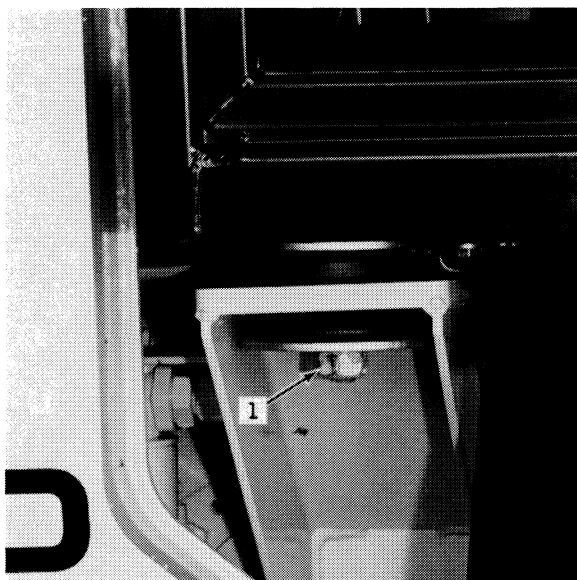

FIGURE 9-38
26. Loosen and remove the two front cab mount bolts, Figure 9-38.